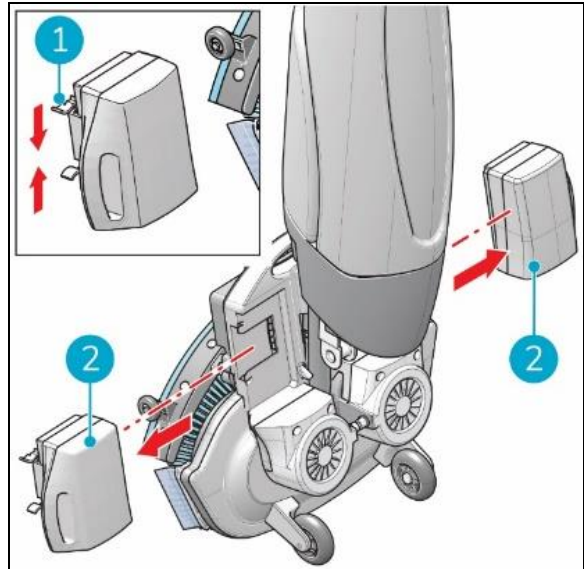

Figure 21
3. While pressing both plastic pins inwards (Figure 21, pos 1), pull each battery pack away (Figure 21, pos 2).